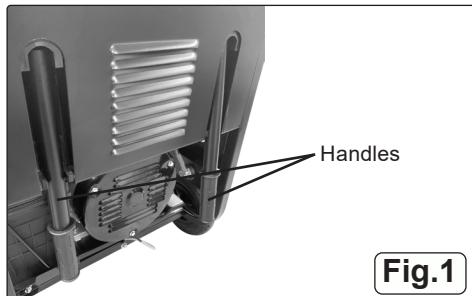

Fig.1
5.1. When transporting the welder generator, always turn the engine switch and fuel valve OFF, and keep the unit level to prevent fuel spillage or vapour ignition. Use the handles on the frame (Fig.1) for safe movement, and ensure the wheels are locked to prevent unintended rolling. Allow the engine and exhaust system to cool completely before handling to avoid burns or fire hazards. Handle the generator carefully, avoid dropping it, striking it, or placing heavy objects on top. For storage, keep the welder generator in a cool, dry, and well-ventilated area, away from heat sources, flammable materials, and direct sunlight. If possible, store it off the ground in a rodent-proof location to prevent moisture damage and wiring issues during long-term storage.